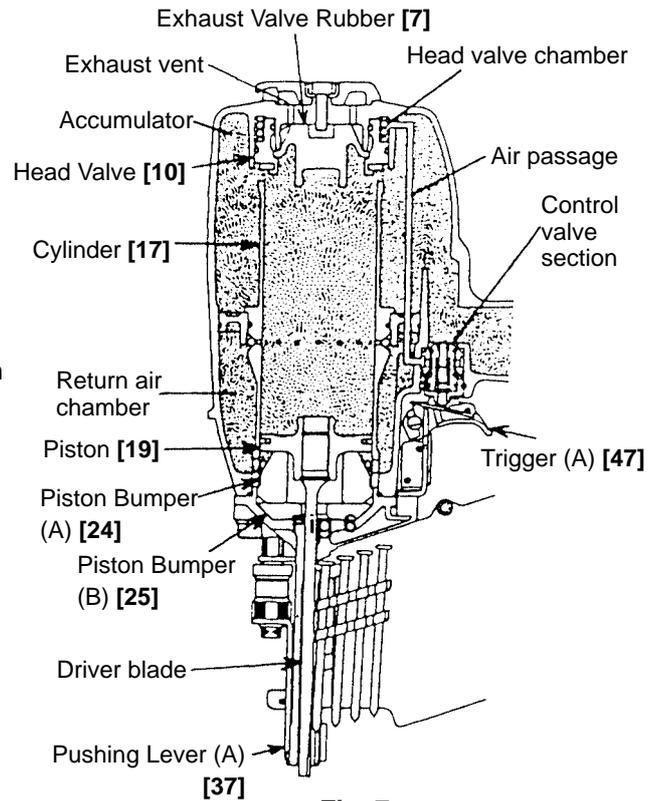
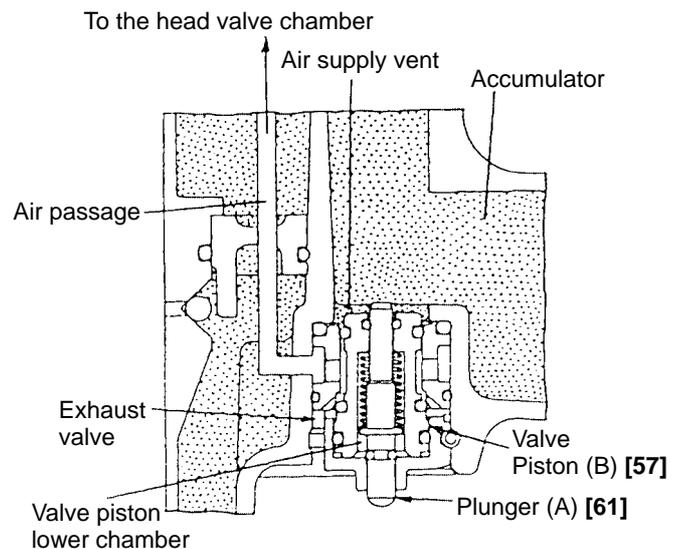
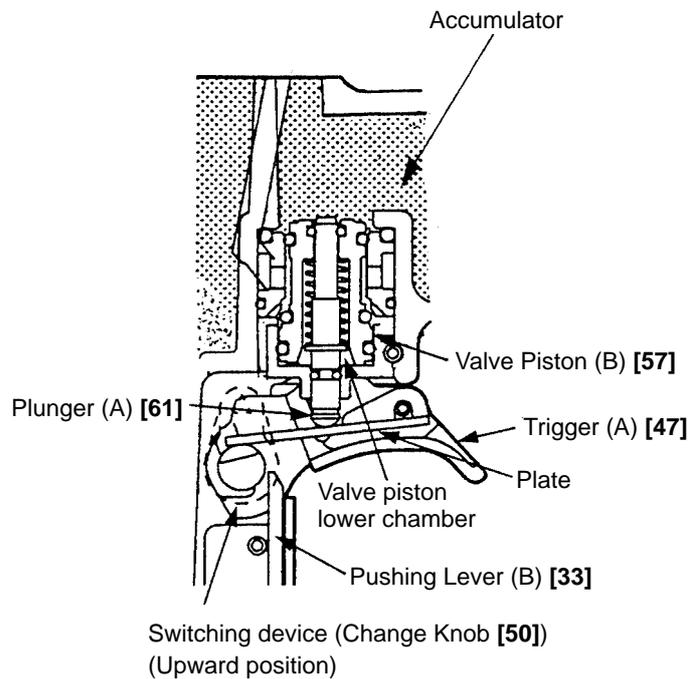
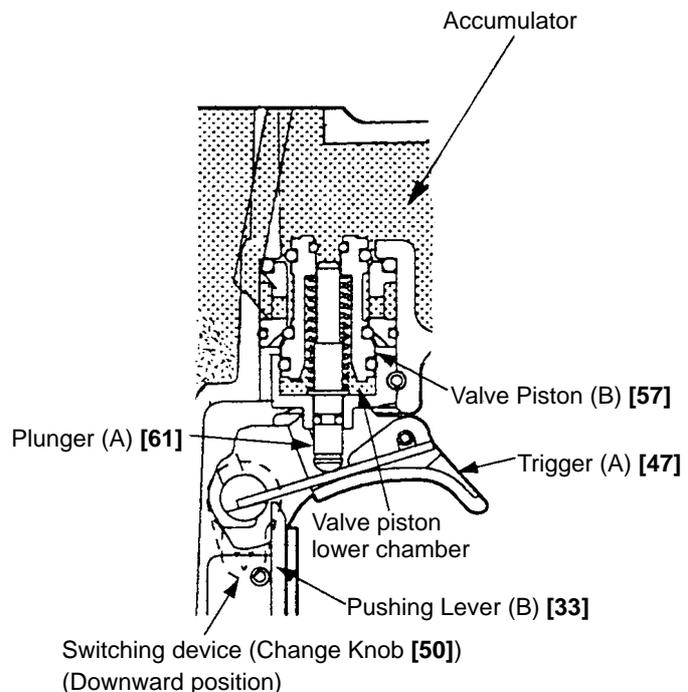

Fig. 7
Fig. 8 Control valve section
Fig. 9 Single actuation mechanism
Fig. 10 Contact actuation mechanism
(3) During return (See Fig. 7 and Fig. 8.)
(4) Single actuation mechanism/contact actuation mechanism: (Fig. 9 and Fig. 10)
- 1) Immediately after driving the first nail, the control valve should be as shown in Fig. 8.
- 2) When only Pushing Lever (B) [33] is released and Trigger (A) [47] is held as shown in Fig. 9, the plate of Trigger (A) [47] contacts the Change Knob [50] and Plunger (A) [61] returns (lowers) only halfway. Because of this, compressed air does not flow into the valve piston lower chamber, and Valve Piston (B) [57] remains in the lowered position. Accordingly, the Piston [19] remains in the lowered position as shown in Fig. 7.
- 1) Immediately after the first nail is driven, the control valve should be as shown in Fig. 8.
- 2) Even when only Pushing Lever (B) [33] is released and Trigger (A) [47] is held, Plunger (A) [61] returns (lowers) completely as shown in Fig. 10. Thus the Piston [19] returns (raises) fully. Accordingly, continuous nailing can be accomplished by pushing only Pushing Lever (B) [33] up and down while holding Trigger (A) [47] depressed.